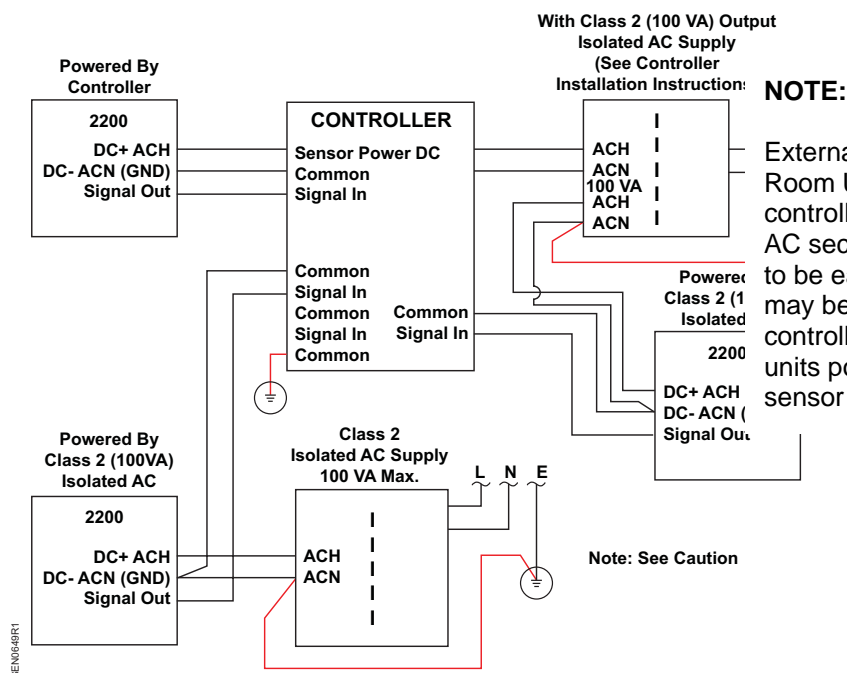

Figure 8. Externally AC Powered 2200 Room Units.
If room unit is powered by AC (See Figure 8):
- Figure 8.